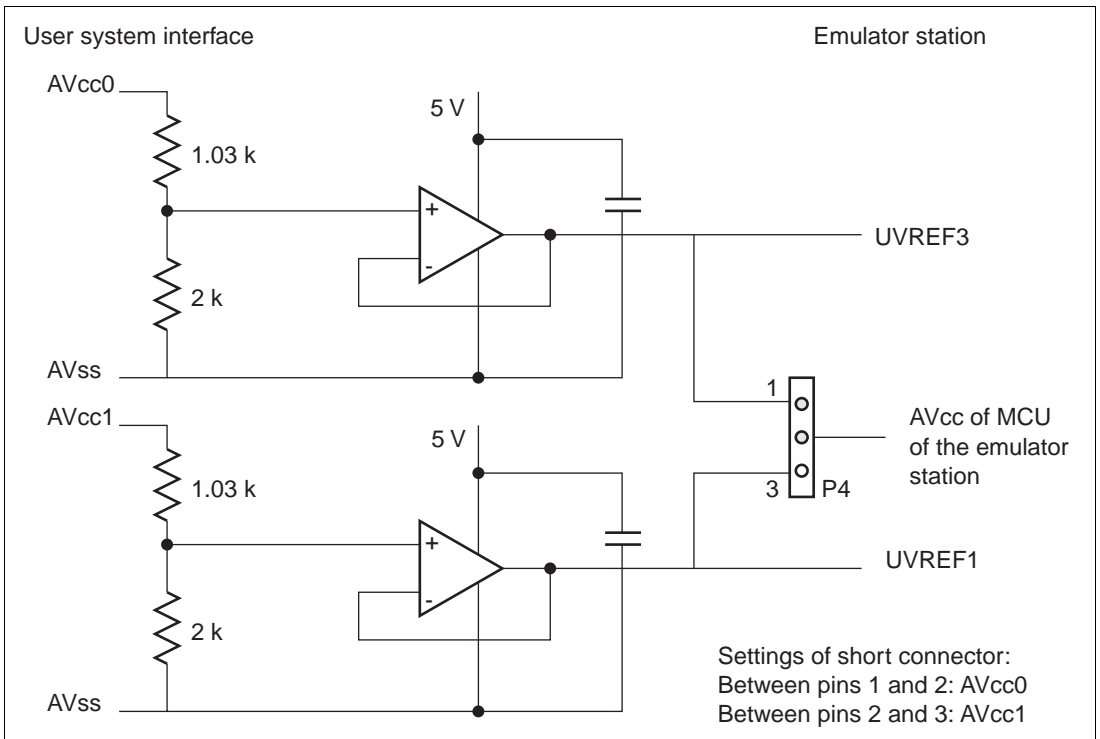

Figure 12 Level-shift Circuit with AVcc0 and AVcc1
6. A level-shift circuit with AVcc0 and AVcc1 is mounted on the user system interface cable, as shown in figure 12. At shipment, the jumper pin is inserted in the side of pins 1 and 2 of the P4 short connector. For details on the differences between the target MCU and the emulator, refer to the H8SX/1650 E6000H Emulator User's Manual (HS1650EPH60HE). For the ranges of input voltages of AVcc0 and AVcc1, refer to the H8SX/1520 Group Hardware Manual.